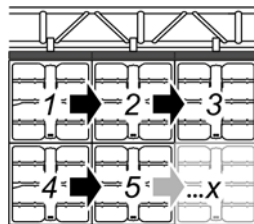

Figure 1-6.
- 9 Lift an LED panel (4) into place below the first panel (1). See Fig 1-6. Use the handle on top of the panel for additional support.